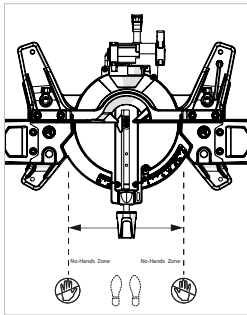

Fig. 13
2. Body and Hand position (Fig. 13)